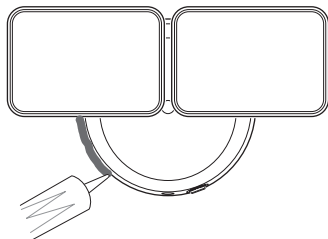

Figure 4
5. Caulk around mounting plate and mounting surface with silicone weather sealant (see Figure 4).